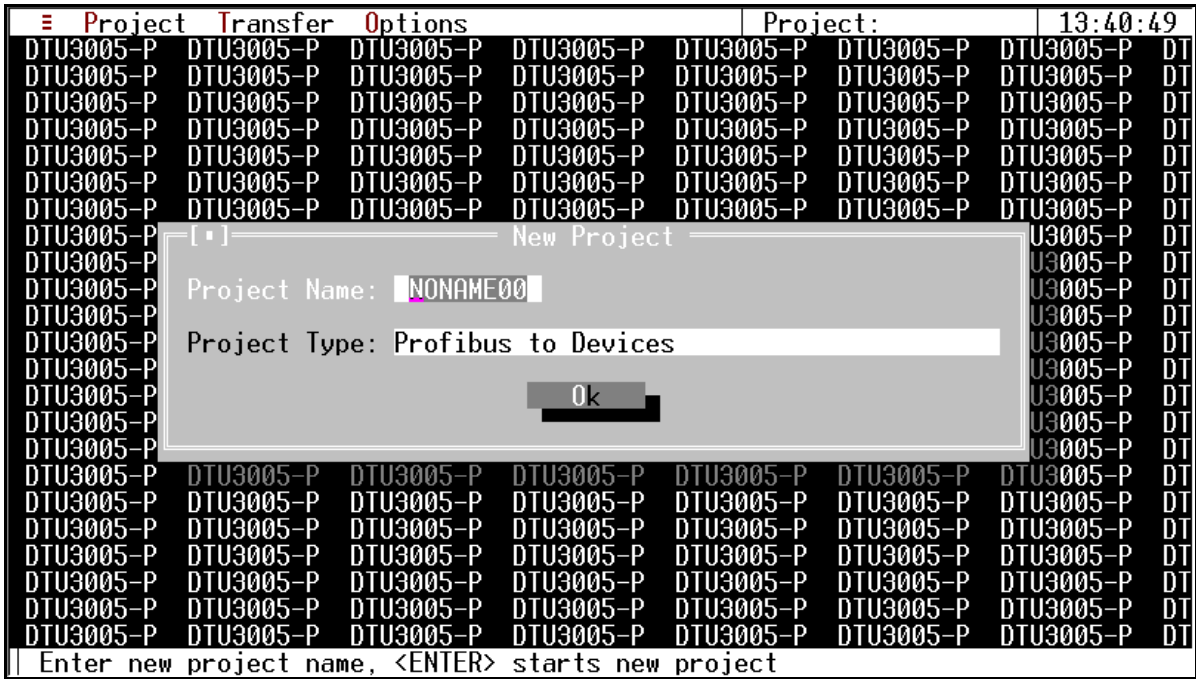

Figure 3.3 New Project Screen
2. From the Project menu, select **New**. The **New Project** screen is displayed (see **Figure 3.3**).